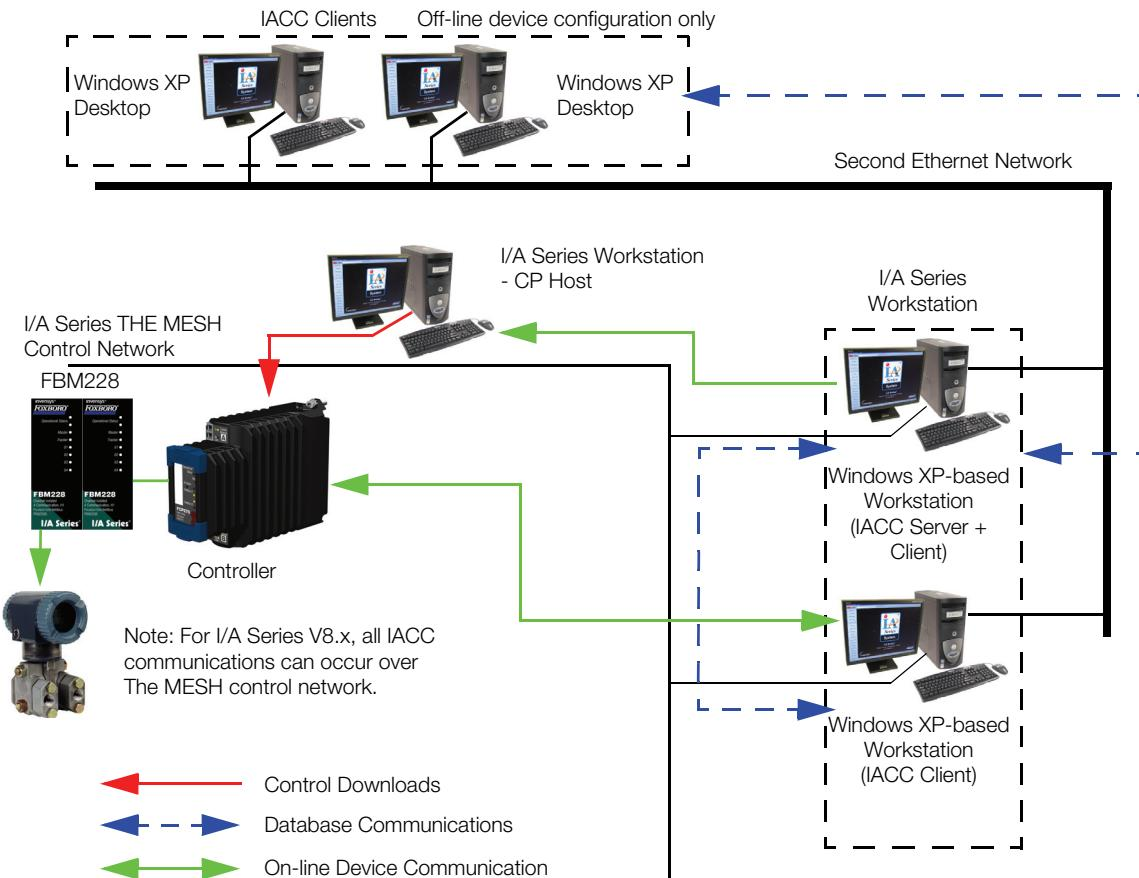

Figure 18. Typical System Architecture of IACC and Field Device Manager
- ▶ Figure 18 illustrates the full Control Room edition of Field Device Manager.